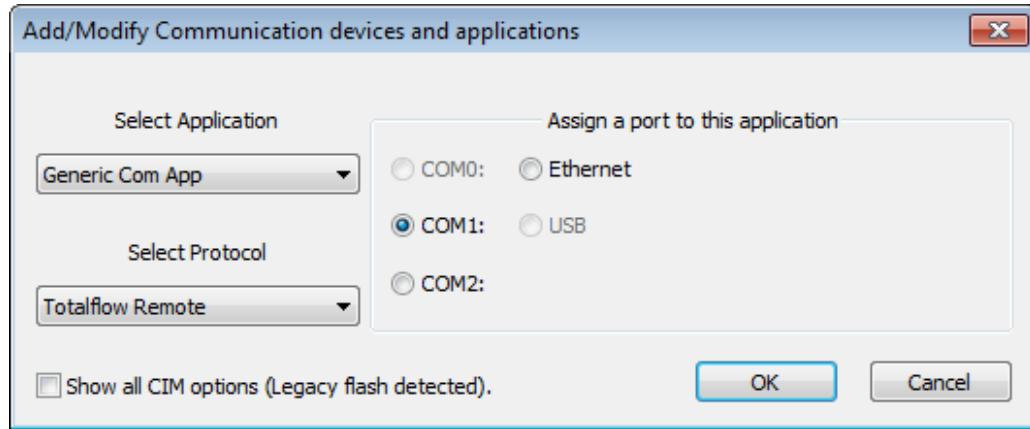

Figure 34: Add communication
5. Click **Add New Device/Application**. The Add/Modify Communication device and application box displays (Figure 34)